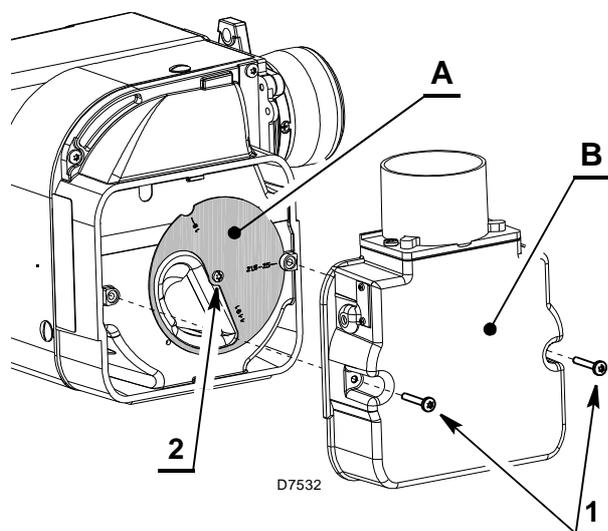
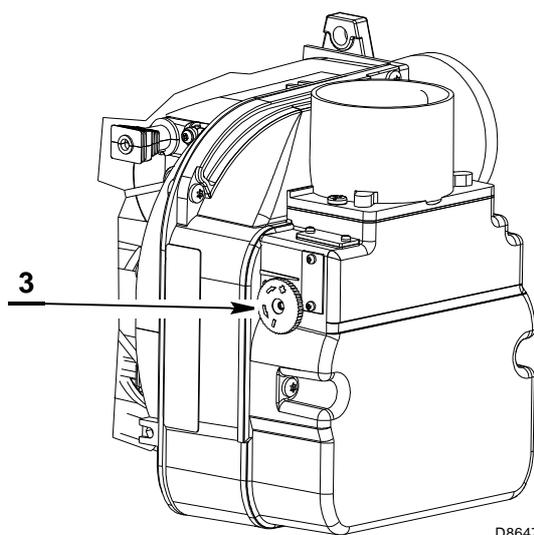

Fig. 21
Fig. 22
The air setting is performed by mean of two independent dampers (see Fig. 21 and Fig. 22).
- remove the secondary air damper B)(Fig. 21) loosing the screws 1).
Tuning of this device is possible acting of the screw 3)(Fig. 22).